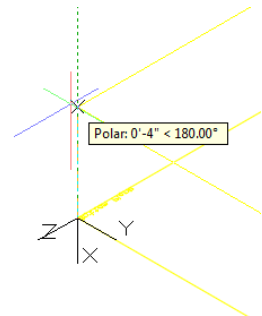

Figure 14 Offset Work Plane
16. Select the Bottom Work Plane then position the cursor so you have a vertical polar line as per Figure 14 Offset Work Plane then type 2.5 inches (2.5") to create a new work plane 2.5" above and parallel to the Bottom Work Plane